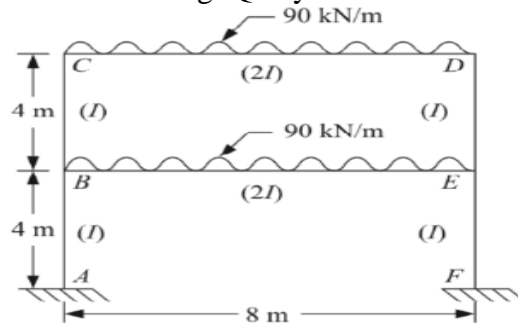

Fig. Q6
6. Analyse the Frame shown in Fig. Q6 by Kani's method. Draw BMD. 20 (3 : 3 : 2.2.1)